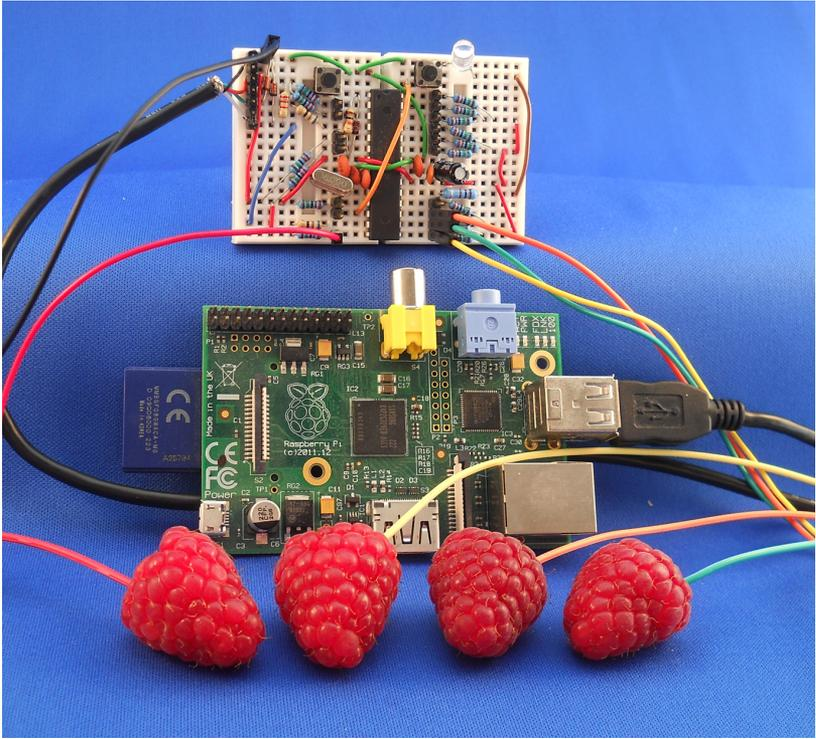

Figure 3-21. *Final wiring*
5. Connect the USB cable to the Raspberry Pi (see Figure 3-21).